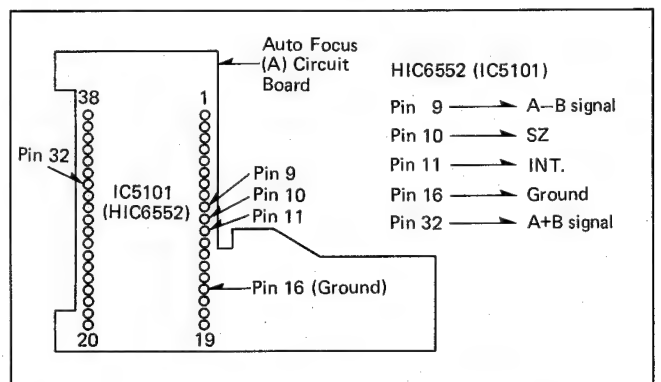

Fig. 3 Auto Focus (A) Circuit Board
2. Connect the read wire to pin 9, 10, 11, 16 and 32 of HIC6552 on Auto Focus (A) circuit board (see Fig. 3).